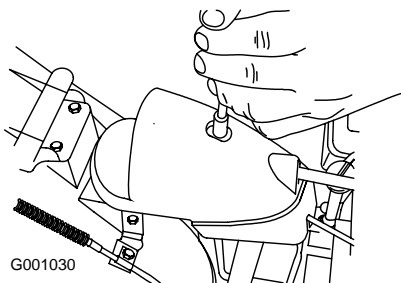

Figure 54
- Remove the fastener on the gear cover (Figure 54), lift the front of the cover up, and slide it back and out of the way.